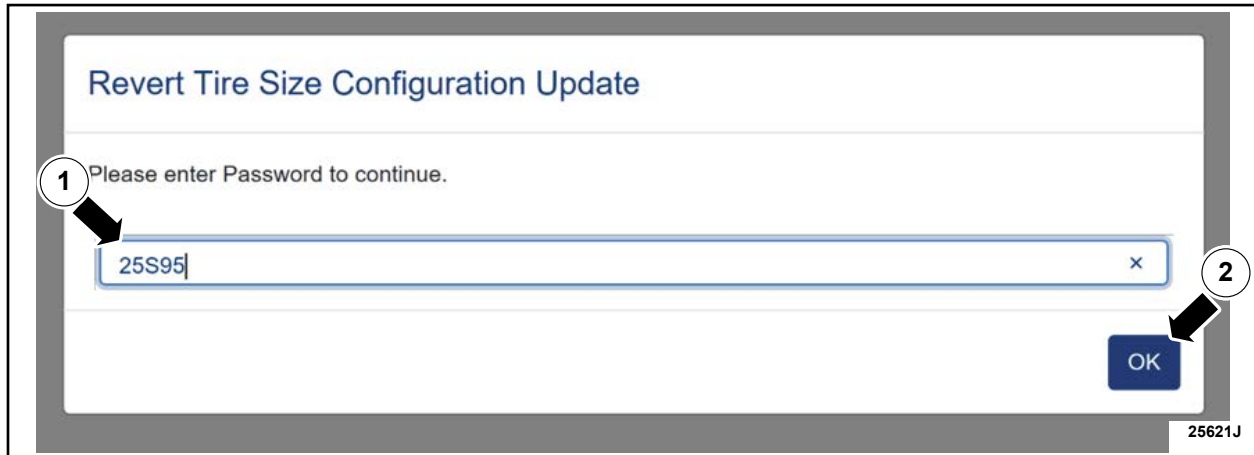

FIGURE 7
18. Enter the password **25S95** in the dialog box and click **OK**. See Figure 7.